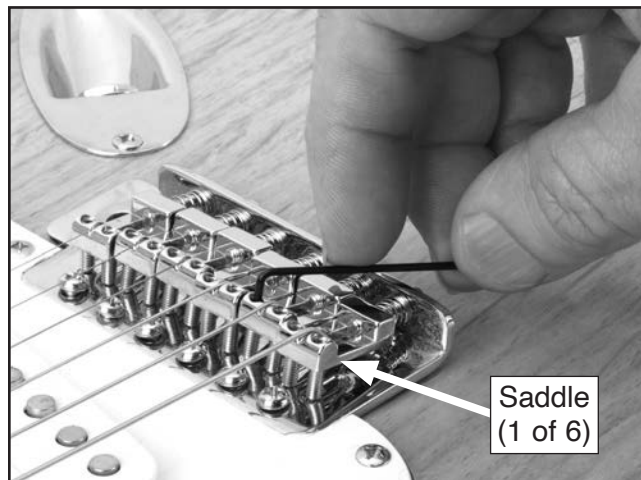

Figure 28. Example of adjusting string height.
3. Adjust saddle height (see **Figure 28**) for each string until it is 0.060"–0.080" above 12th fret.